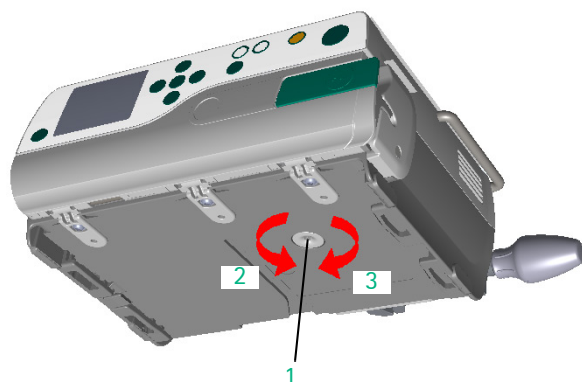

Fig. 2 - 1
The mechanical pressure can be adjusted with a T30 TORX screwdriver inserted in the opening of the housing, bottom part (Fig. 2 - 1 / Item 1). Opening the unit is not required.
1. If the pressure is too high during the mechanical pressure test, reduce the pressure by rotating clockwise (Fig. 2 - 1 / Item 3). If the pressure is too low, increase the pressure by rotating counterclockwise (Fig. 2 - 1 / Item 2).